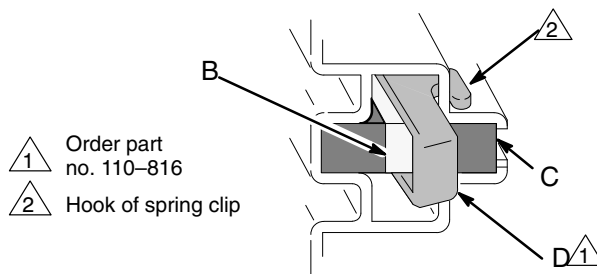

Fig. 9 01227
2. Push in the spring clip (D) to unhook it, and then pull it out. See Fig. 9.